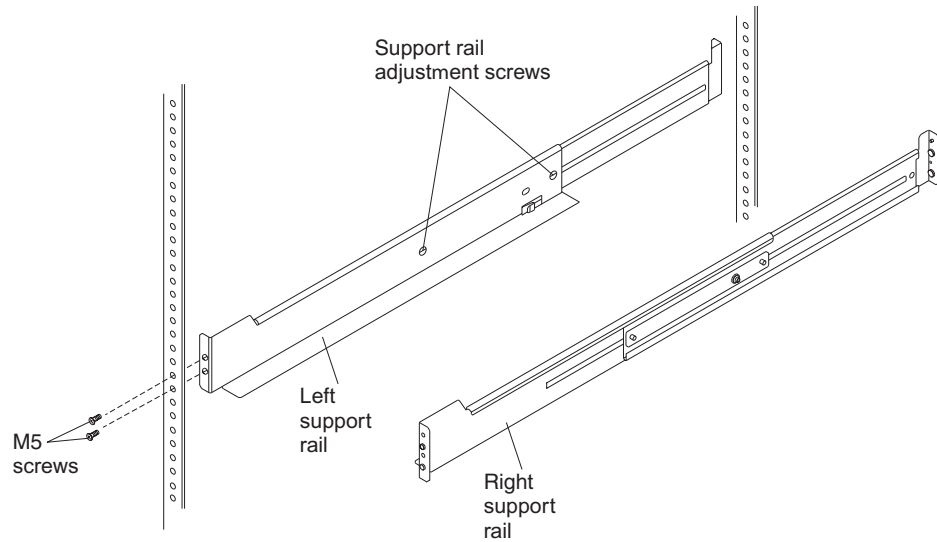

Figure 14. Installing the support rails
**Note:** Refer to Figure 14 on page 35 while performing these steps.